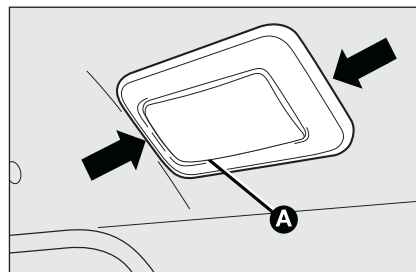

fig. 40
- ☐ remove the ceiling light **A-fig. 40** levering in the points shown by the arrows;